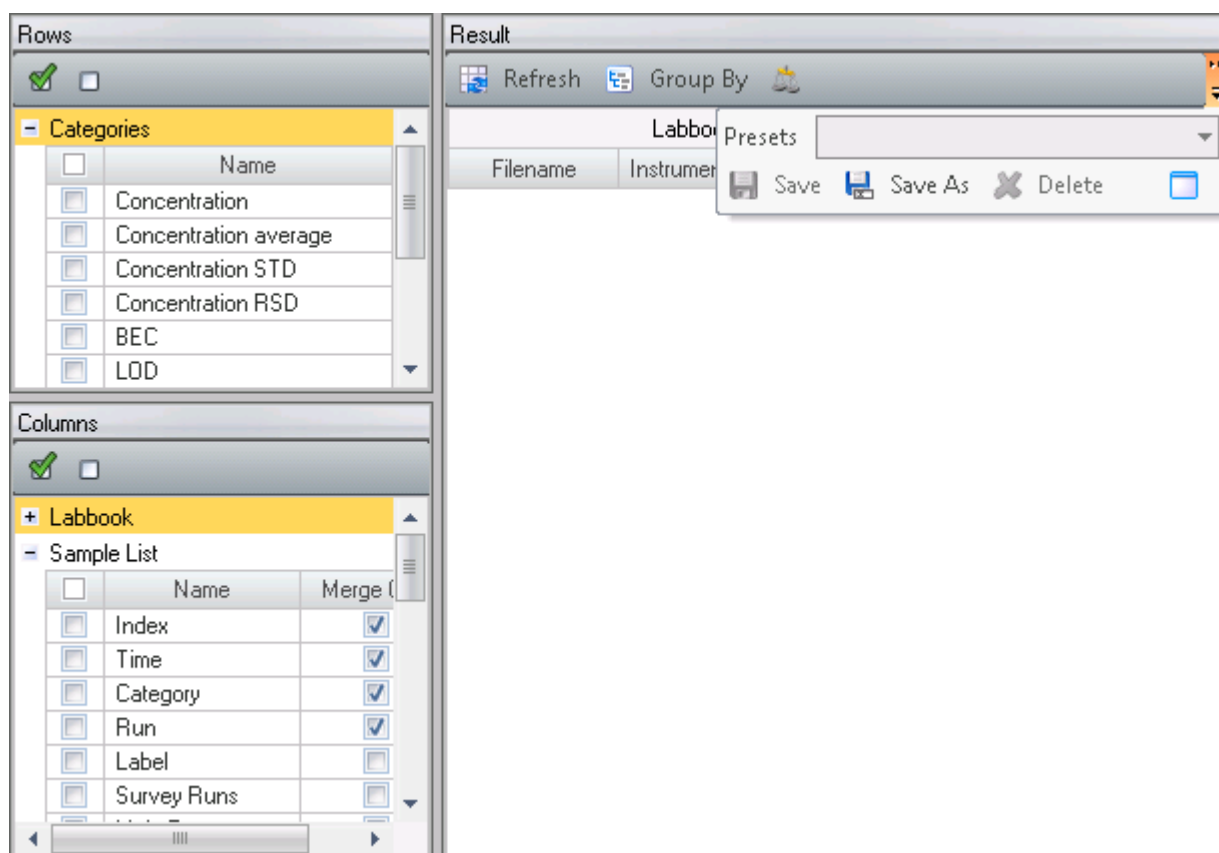

Figure 7-31. Query view in completed LabBook
4. Click **Query** to open the **Query** view, see Figure 7-31.